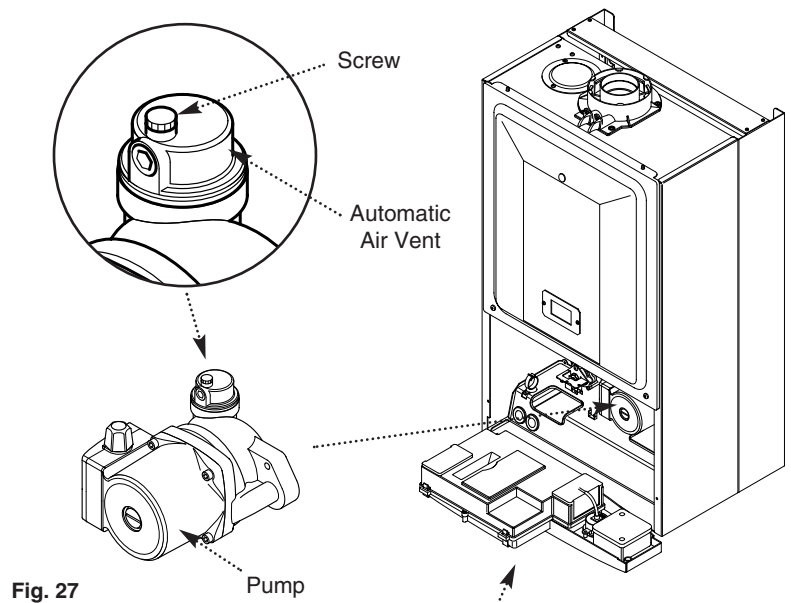

Fig. 27
3. Open the screw on the automatic air vent (Fig. 27).